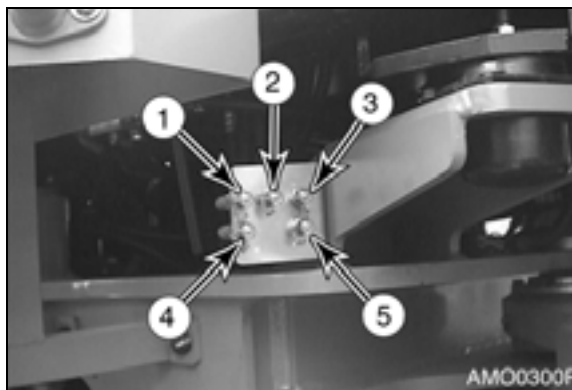

Figure 93
Hydraulic pressure for most systems can be checked by using the remote test ports shown in (Figure 93).
1. Attach gauge to port (1, Figure 93).
1. Attach gauge to port (2, Figure 93).